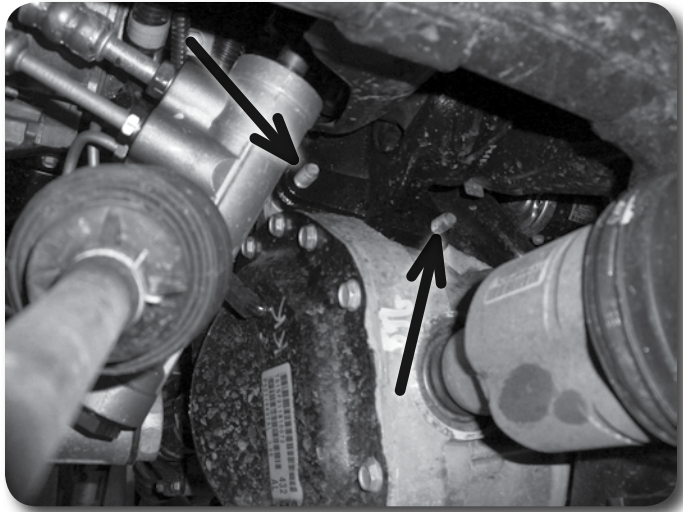

Figure. 8
28. Using a jack, support the differential. Loosen and remove the two forward-most differential mounting bolts on the driver's side **Figure 8**. Loosen but do not remove the three rear driver's side bolts **Figure 9** and the two passenger's side bolts **Figure 10**.